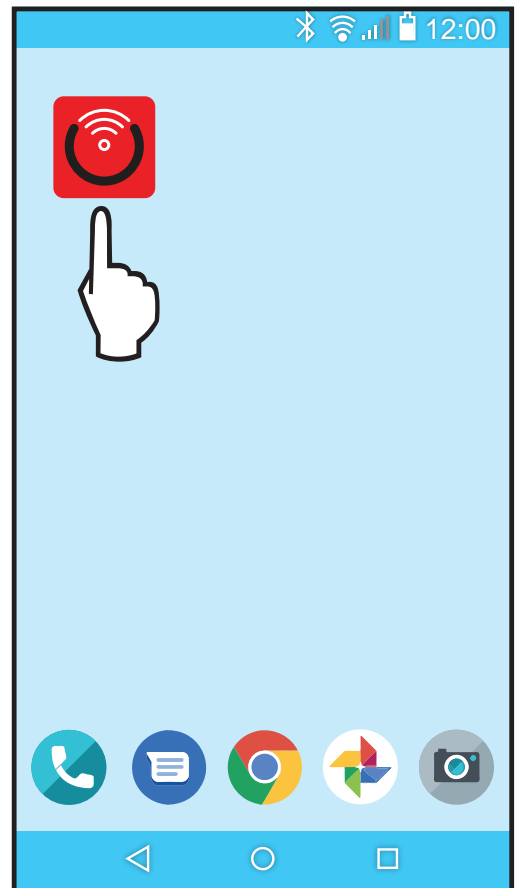

Figure 68. Find your Raymote Mobile App Icon
2. Find the Raymote mobile app icon on your device. See Figure 68.